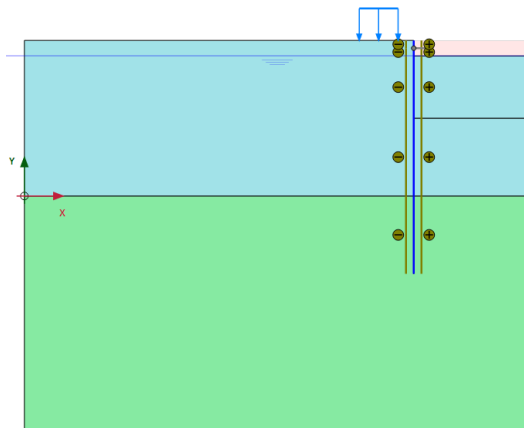

Figure 2.10 Model view for the first excavation phase
- In the draw area right-click the top right cluster and select the *Deactivate* option in the appearing menu. Figure 2.10 displays the model for the first excavation phase.